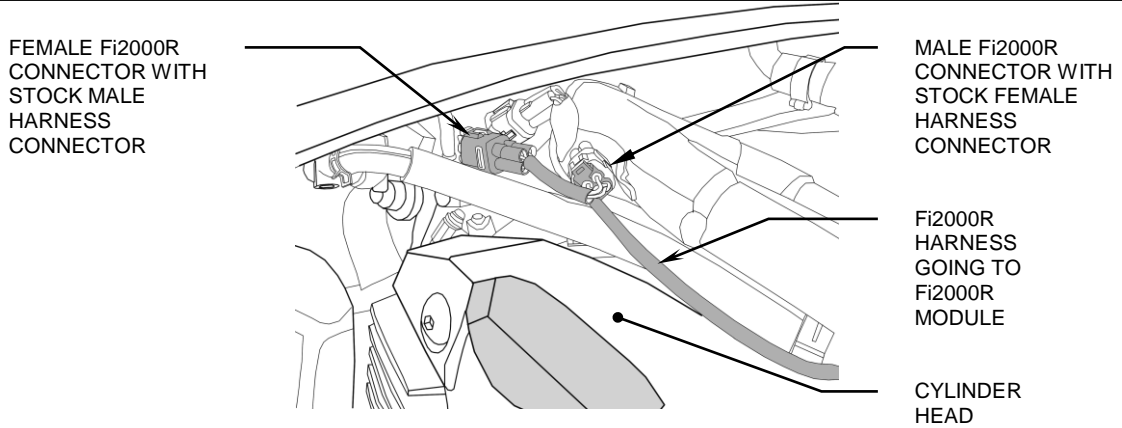

FIGURE 2
3. Locate the four prong white connector up under the fuel tank on the left side of the frame. Unplug this connector then plug each male and female connector into the corresponding stock connectors, see Figure 2. Tuck these connectors out of the way and lower the fuel tank.